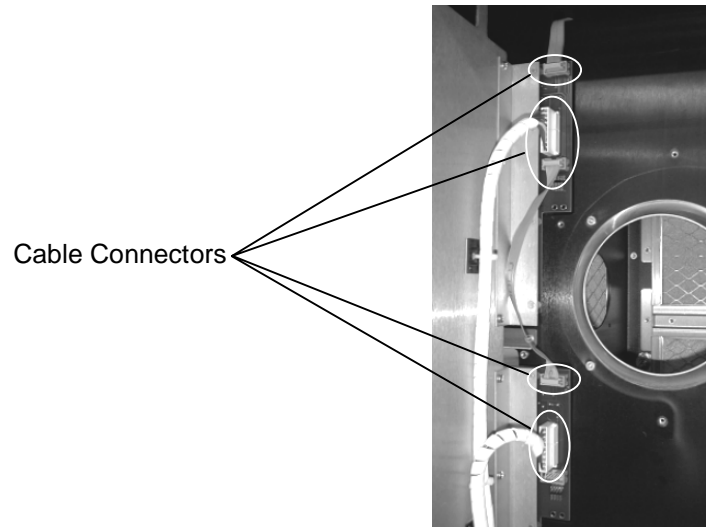

Figure 7-65 58xxx, 68xxx and 88xxx Models Left Side Drive Bay PCBA
5. Disconnect all cables from the Drive Bay PCBA being removed (Figure 7-65).
10. Reconnect all cables to the Drive Bay PCBA (Figure 7-65).